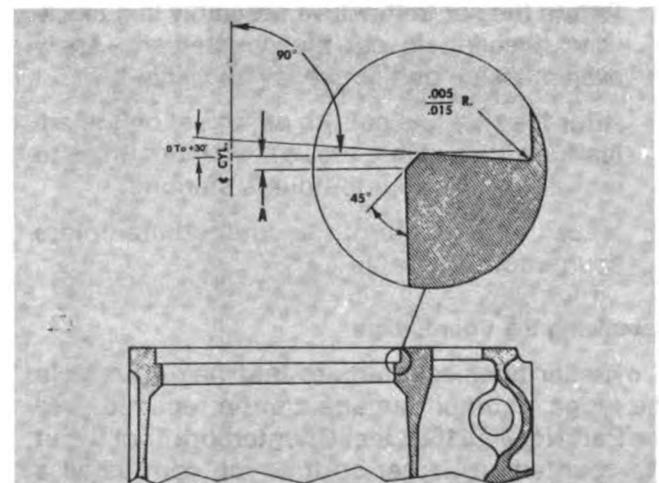

Fig. 1-13 (N10111). Cross-Section Of The Counterbore.
- c. The tool must cut the counterbore ledge to the dimensions shown in Fig. 1-13.